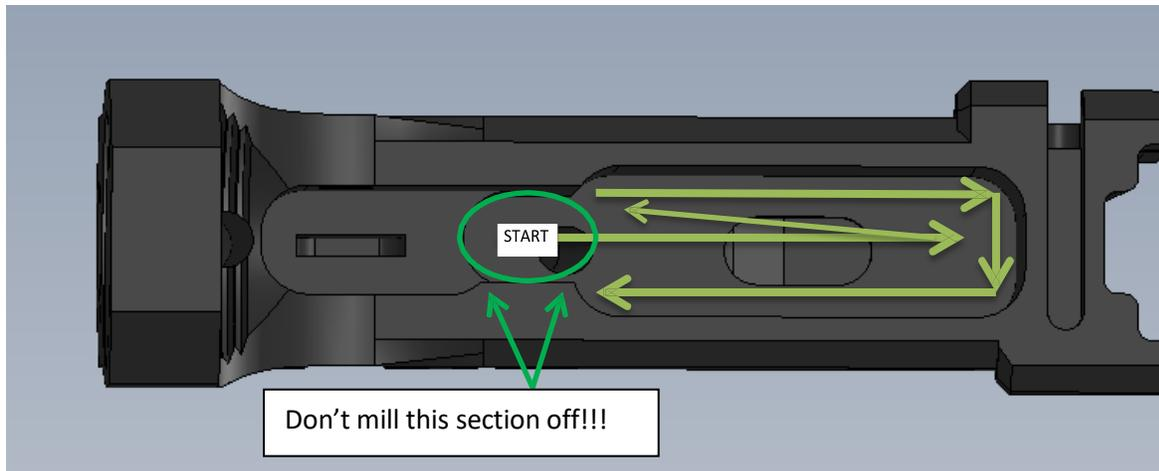

Figure 3
6. Once the fire control pocket is done you can start going straight across into the wider fire control pocket area to clear smooth out the floor and side walls to refine or smooth them out. It's important to start clearing out the hole from debris so you can see what you are doing. A strong light and a shop vac are useful. Figure 3 shows you the technique and pattern you should follow while plunging and milling.
7. Note: Now that we're going to start drilling and cleaning out the main fire control pocket using a milling procedure, it's important to note that the drill bit in a drill press is spinning in a clock-wise direction towards you, from right to left. **ASSUMING YOU ARE USING A CROSS SLIDE VISE** therefore, when moving the jig underneath in the slide vise, follow the path pictured in Figure 3 to prevent the bit from jumping and chattering. You will work against the grain in one sense, rather than allowing the bit to grab and run.
9. **Each time you go through this process, FOLLOW THE PATH IN FIGURE 3.**